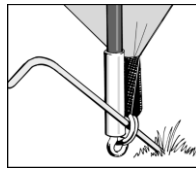

Figure 2
7. Peg each of the 4 corners of the inner tent through the ring of the ring and pin system (see figure 2).